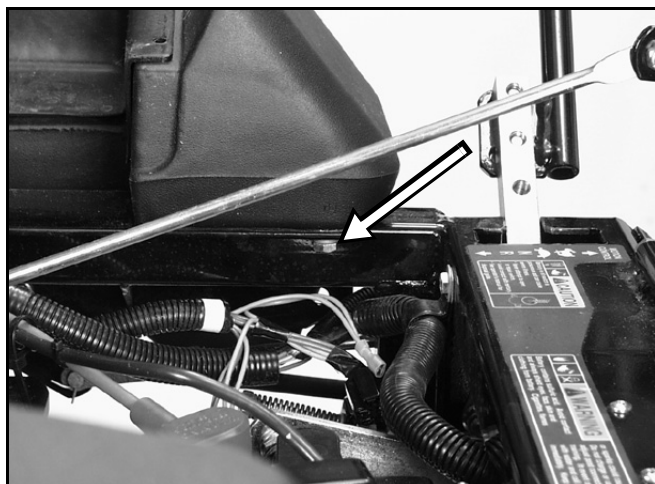

Figure 93
5. Remove the bolt securing the front of the fuel tank to the frame (Figure 93).